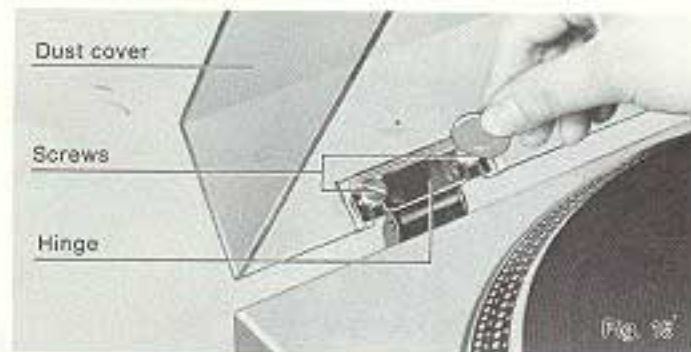

Fig. 15
### ⑪ Installation of the dust cover (See Fig. 15)